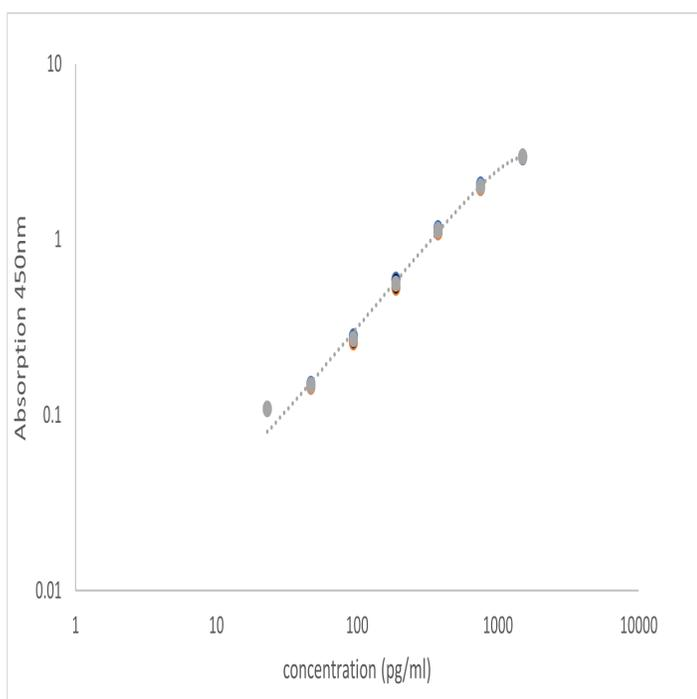

Figure 9 Representative standard curve for human C-Peptide ELISA.
- A representative standard curve is shown in Figure 9